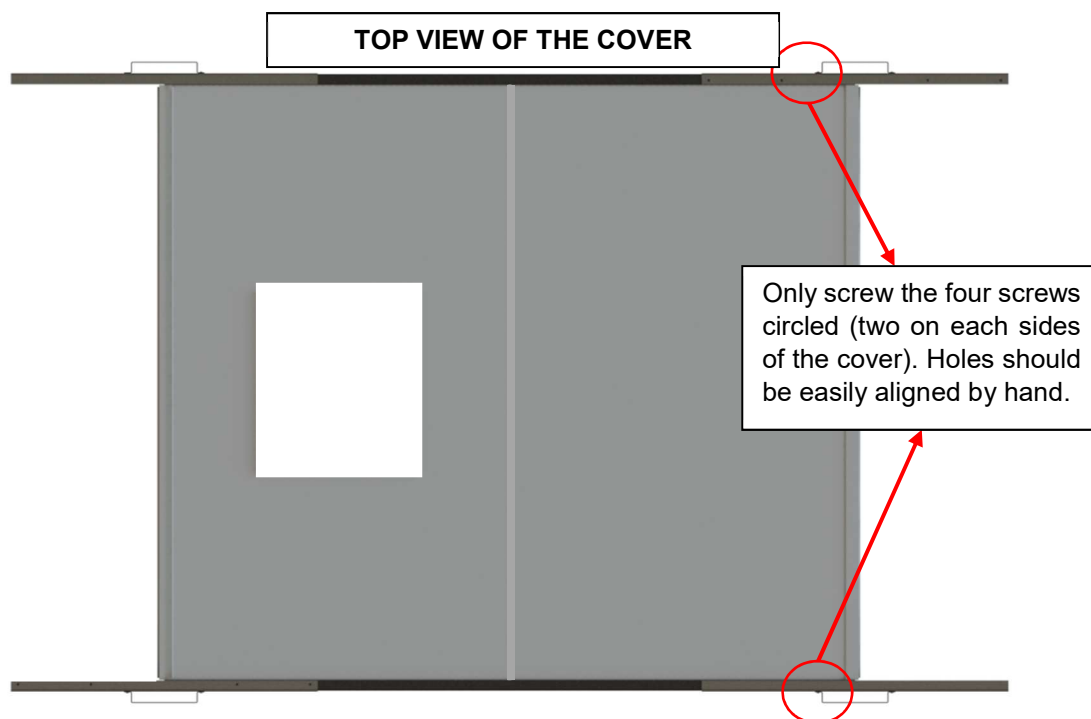

Figure 61
- 14) Repeat step 13 for the opposite side of the cover (Figure 61).